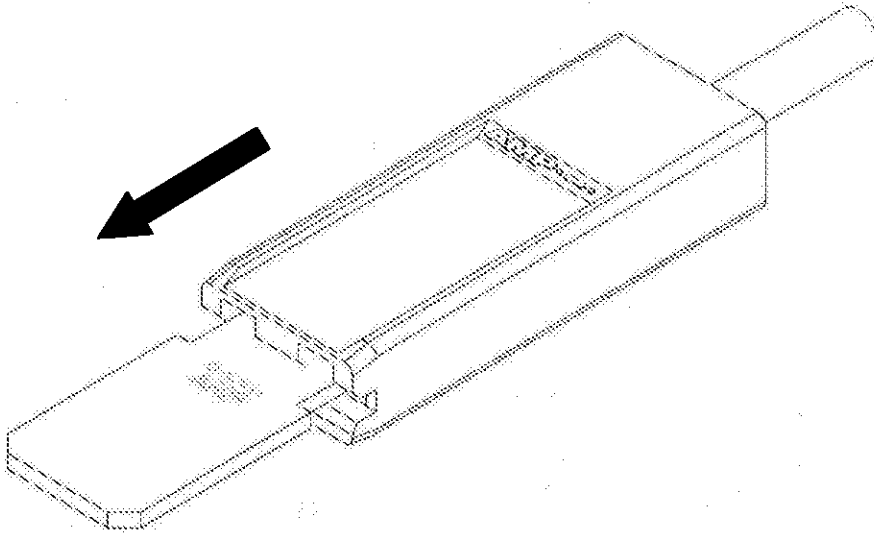

Fig. 6
2.5. The operation is finished when you hear the click sound and can not insert further, see fig. 6.